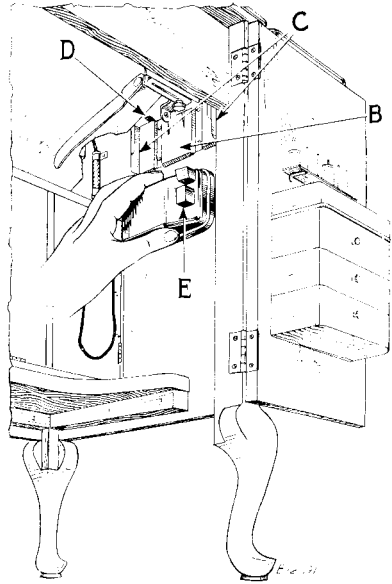

FIG. 5. PLACING BAKELITE CONTROLLER IN CABINET 48 FOR KNEE CONTROL.
Insert the controller upward into the holder (B) with the pedal (E) toward you and the base of the controller in the side guides (C). Push up the controller until it rests against the stops (D), only one of which is visible in Fig. 5.